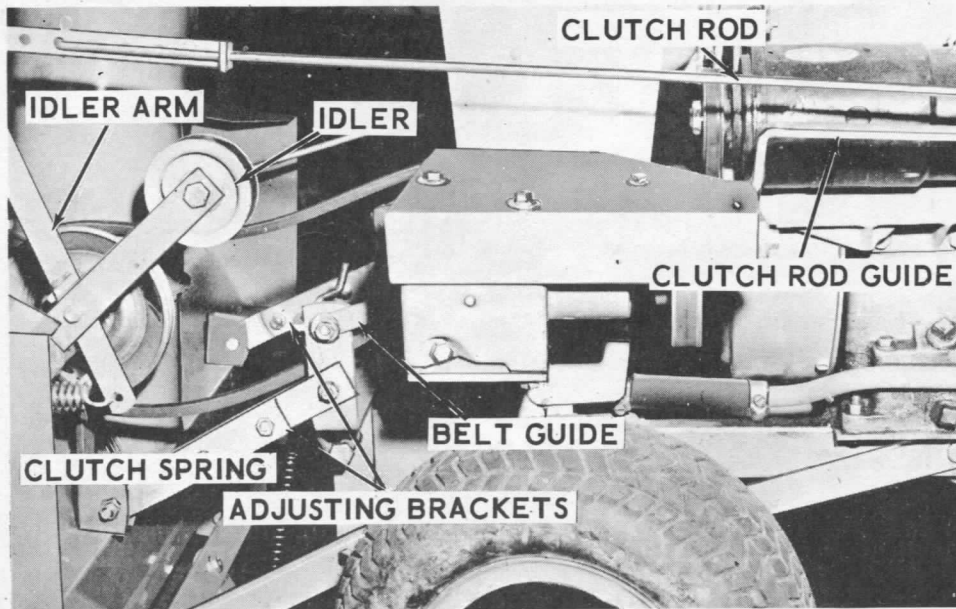

Figure 22
12. Place clutch rod through the guide arm on the gear box cover and bolt snugly to the idler arm, Figure 22, with a 5/16" x 3/4" cap screw and lock nut.
14. Install the secondary drive belt as shown in Figure 22.
15. Install the belt guide, Figure 22, to the top hole on the left side of the lift bracket with a 3/8" x 1" cap screw, plain washer, lockwasher, and nut. Adjust the guide so it clears the belt approximately 1/8" when clutch is engaged.